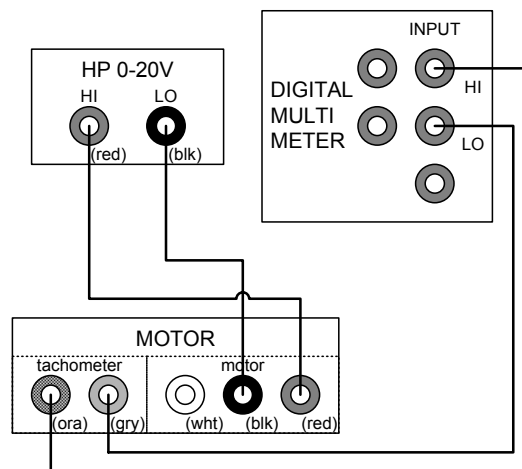

Figure 4.6. : Wiring Diagram for measuring V_i , i_a and V_{tach}
1. Remove the potentiometer from the motor assembly. Adjust your wiring to match figure 4.6.